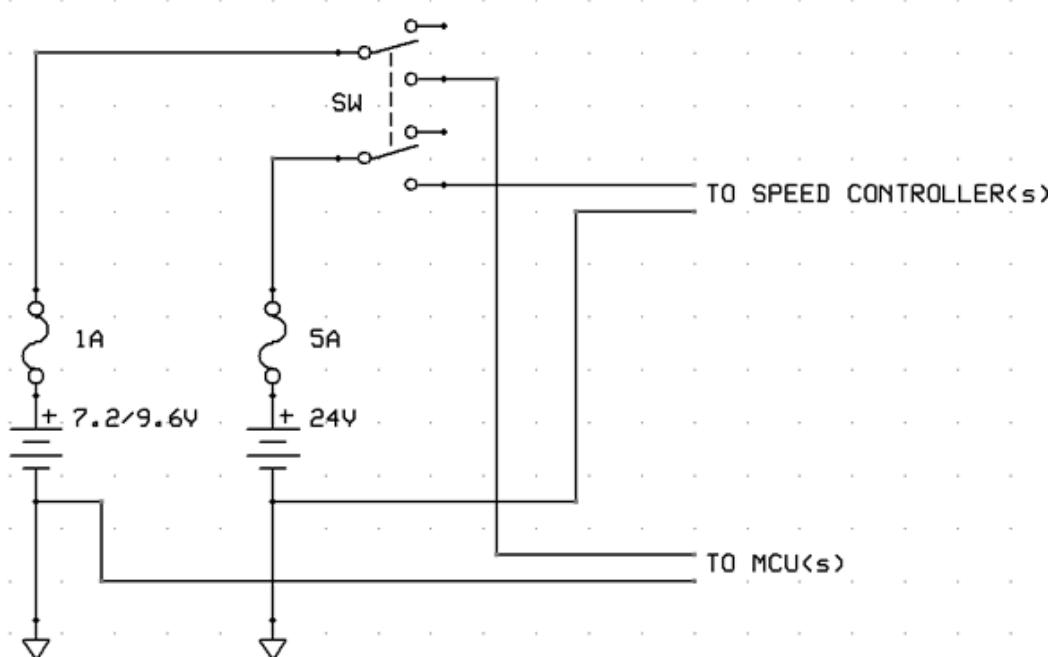

Figure 39: Power Schematic
1. Refer to Figure 39 below for details of how to wire the power for your robot.
3. Wire the fuses in as shown in the schematic in Figure 39